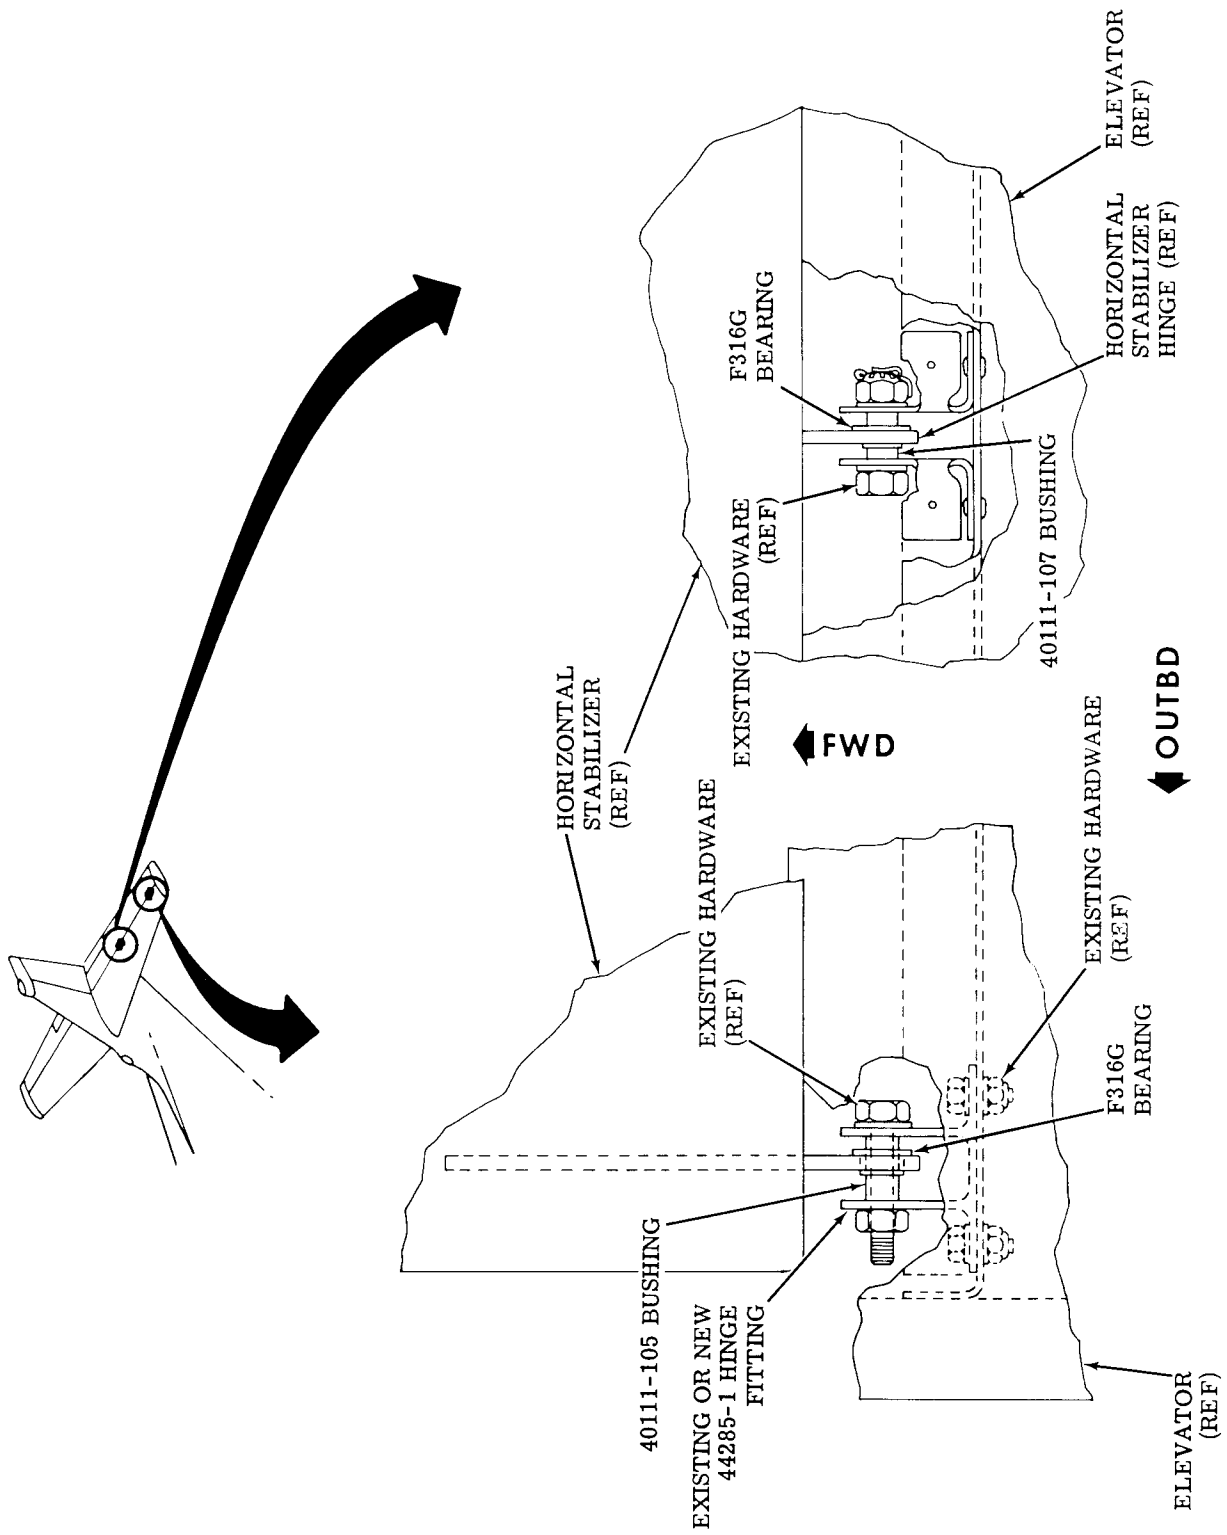

Figure 2.
- d. Install new 44285-1 hinge fitting on elevator using existing hardware (see Figure 2.).
19. Install F316G bearing (4 places) on horizontal stabilizer center and outboard hinges and ream hole in bearings to 0.317/0.318-inch (see Figure 2.).
21. Reinstall left and right elevator assemblies on airplane as outlined in the Airplane Maintenance Manual, Section VII, using existing hardware, 40111-107 bushing (center hinge) and 40111-105 bushing (outboard hinge) (see Figure 2.).